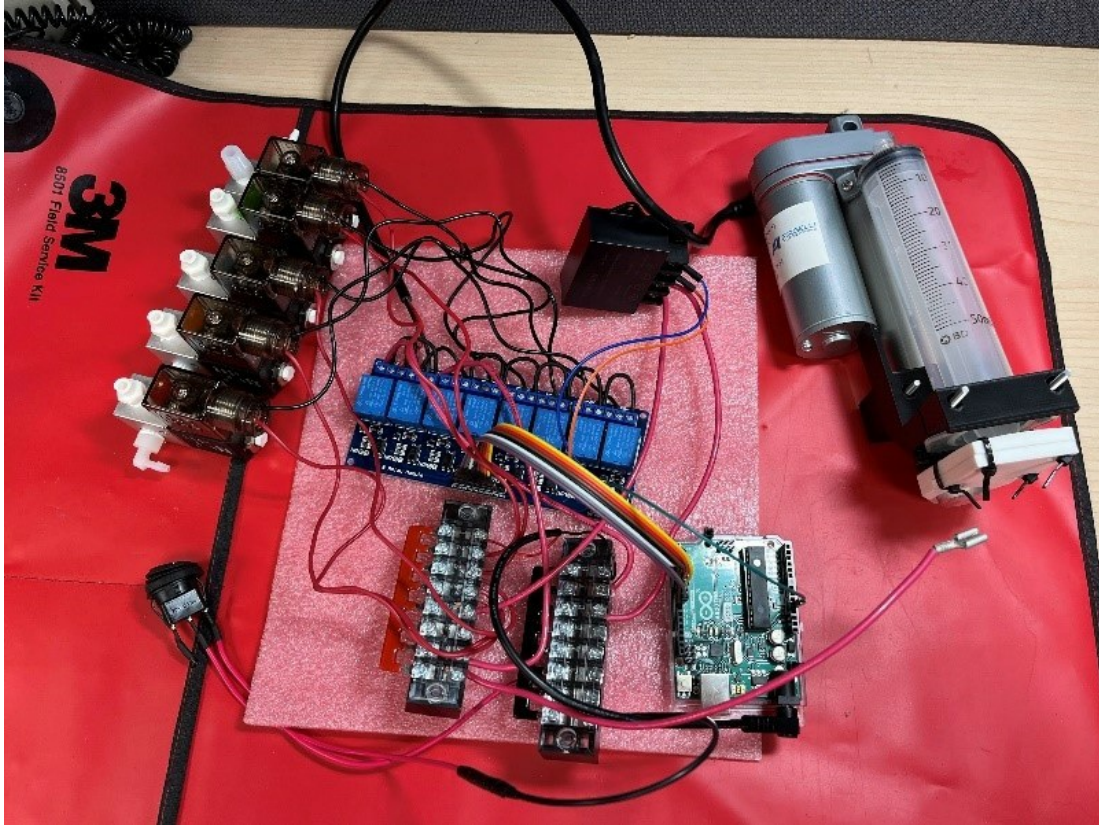

Figure 8. Completed wiring of the flux case.
- 12.3** Plug the A/C connector into the Arduino (Figure 8)